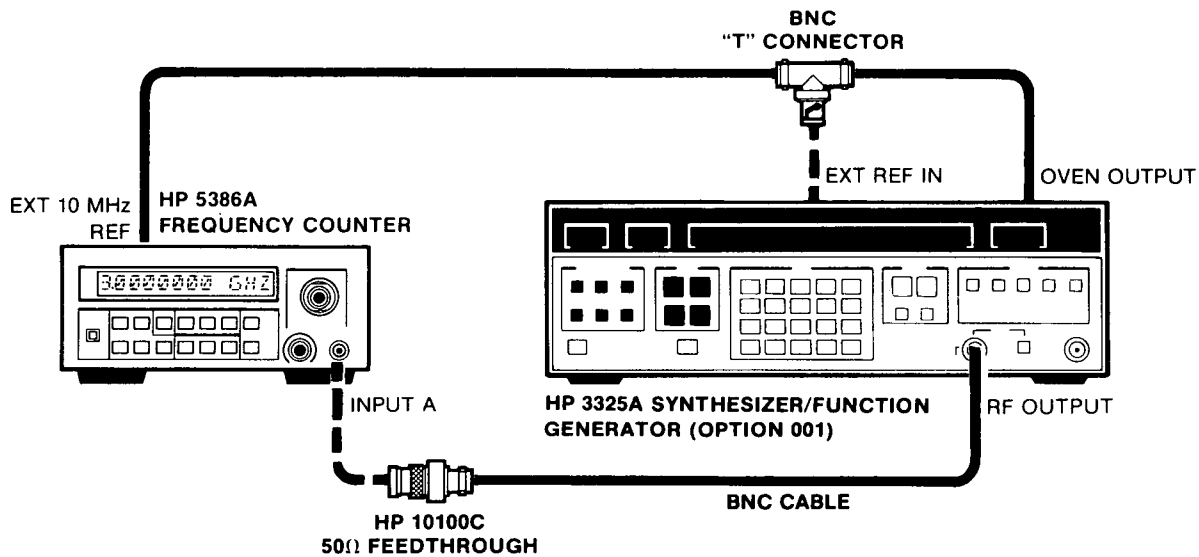

Figure 4-1. Channel A Frequency Response and Sensitivity Test Setup (HP 5386A)
1. Connect the HP 3325A synthesizer/function generator to the HP 5386A channel A input as shown in *Figure 4-1*.
1. Use the same set-up shown in *Figure 4-1*.